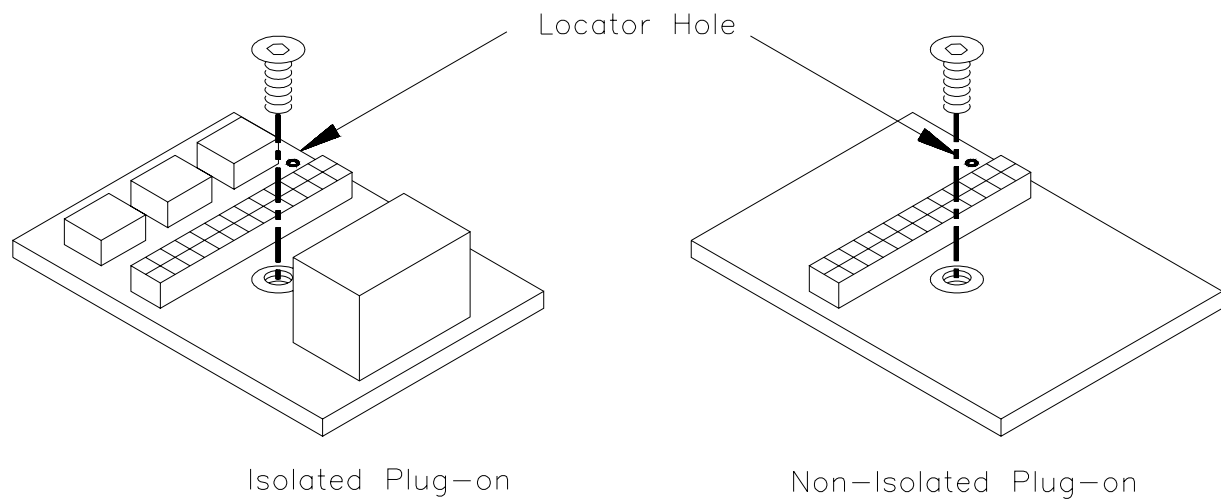

Figure 6-4. Installing Plug-on Modules
1. Replace all plug-on assemblies. **DO NOT** operate the module without a plug-on assembly installed. The plug-on assemblies have a locator hole to ensure correct orientation, see Figure 6-4.